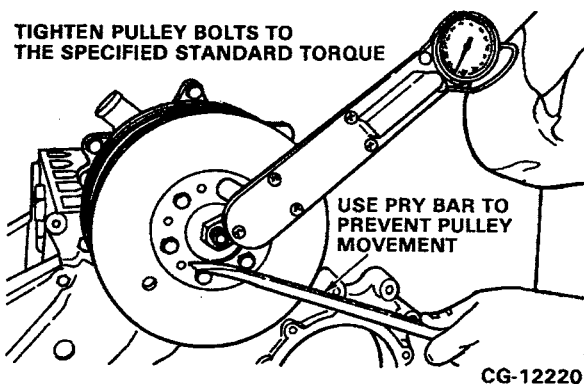

Figure 10.18. Install Water Pump Pulley
3. Slide the water pump pulley over the water pump hub. Fasten the pulley to the hub using the six mounting bolts and washers. Refer to Figure 10.18.